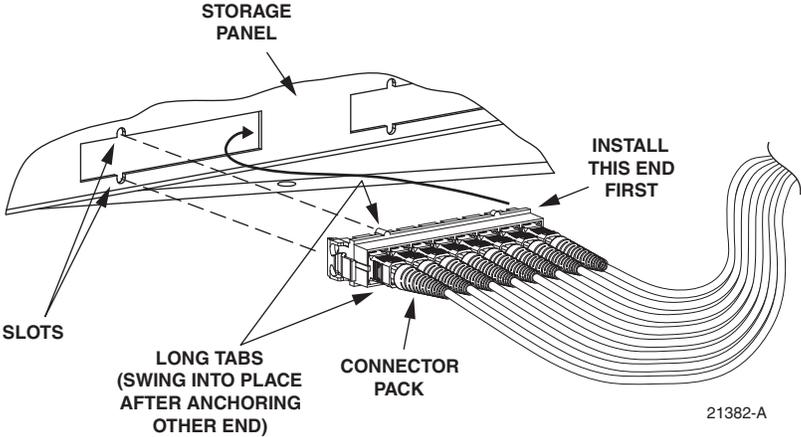

Figure 6. Installing Connector Pack
- 3. To install the connector pack, first anchor the right end then swing the long tabs into the corresponding slots in the storage panel. See Figure 6.